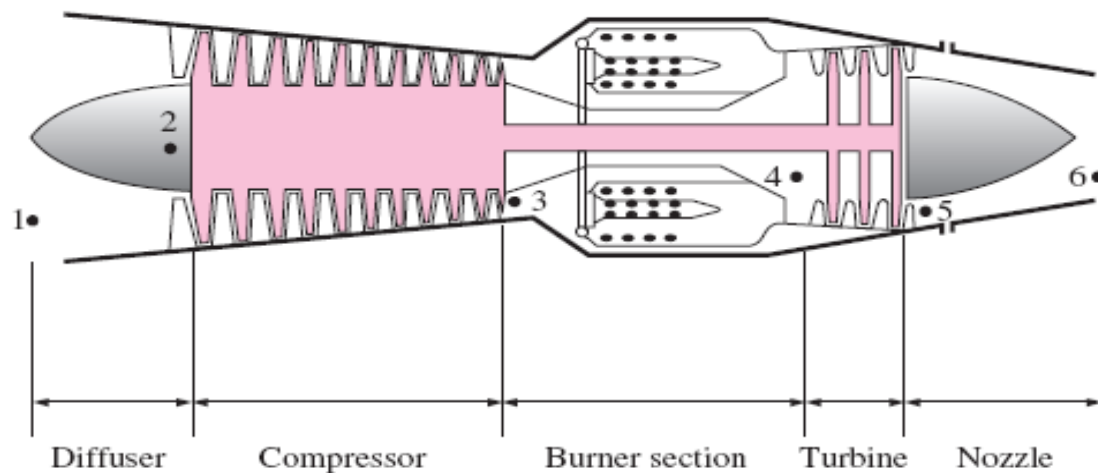

Fig 9a: Basic components of a turbojet engine
2. Diffuser exists before compressor and nozzle after turbine (Fig 9a).